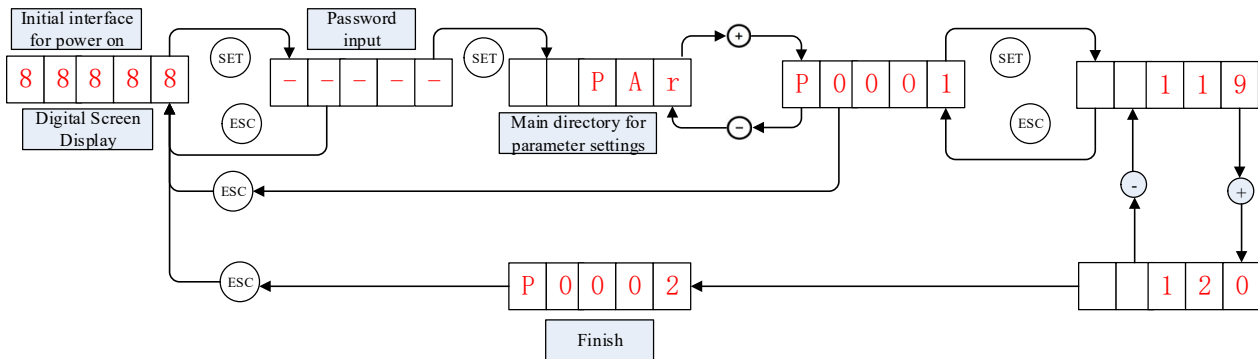

Figure 6. Parameter setting diagram
- (1) Modify the parameter P00.46 = 1. After the reset is completed, P00.46 automatically returns to 1 and the interface returns to the initial state
- (2) Use the menu operation, the operation method is shown in Figure 6.